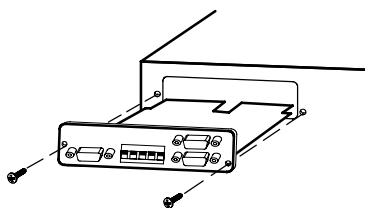

Figure 3. Removing the Modbus Card
2. Remove the card from the slot on the Powerware Expansion Chassis rear panel. Retain the screws (see Figure 3).